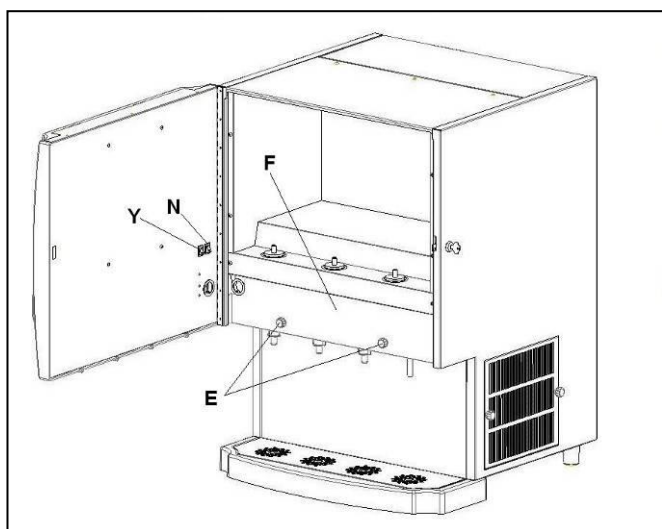

**Fig. 22**
- Rotate the screw G by the means of a screwdriver in order to adjust the quantity of water (Fig. 22).